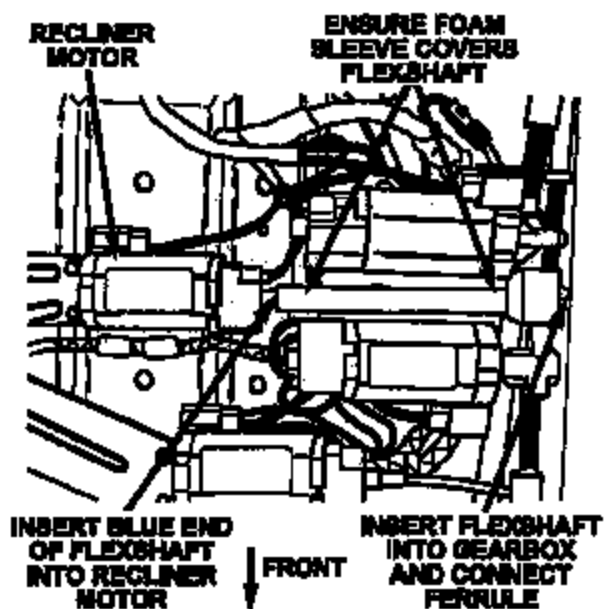

Figure 6
9. Ensure that the foam sleeve is positioned on the provided flexshaft and then install the flexshaft. To do this, insert the BLUE end of flexshaft into the recliner motor, attach the supplied ferrule/clip to the other end of the flexshaft and then connect it to the inboard gearbox (Figure 6).